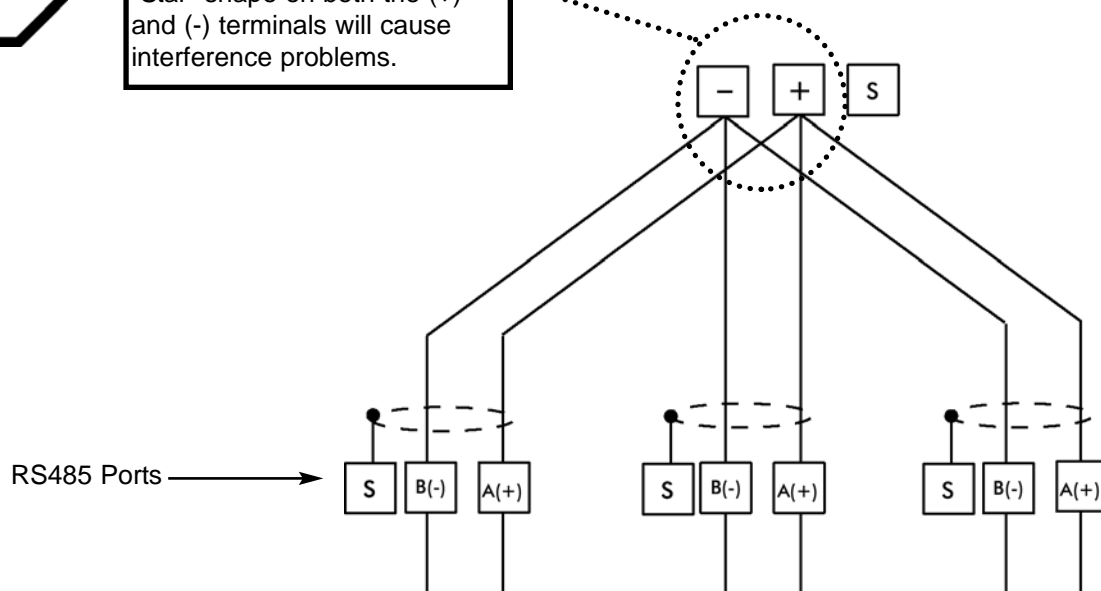

Figure 5.7: Incorrect “T” and “Star” Topologies
- Avoid both “star” and “tee” connections (see Figure 5.7). No more than two cables should be connected at any one point on an RS485 network, whether the connections are for devices, converters or terminal strips.